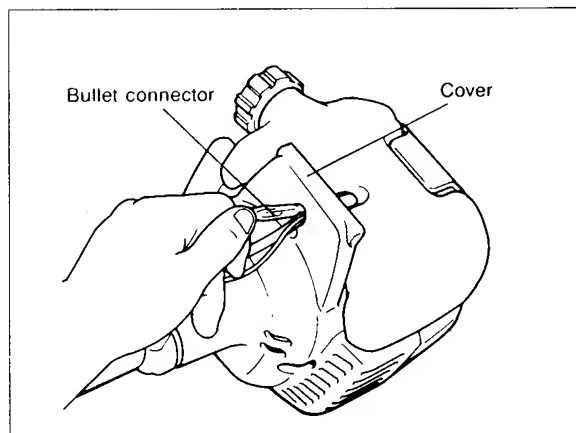

Fig. 4
6. Insert the bullet connectors through the holes in the cover. (Fig. 4)
5. Insert the bullet connectors through the holes in the cover. (Fig. 4)